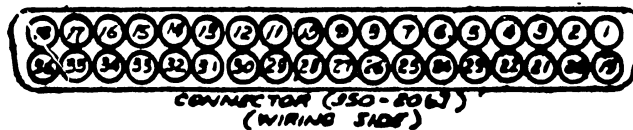

FIGURE 4-78
- 5) Select a wire from the connector color code chart (Ref: Figure 4-78) and insert that wire through the wire slot and discharge chute; do this until all slack is out of the wire.